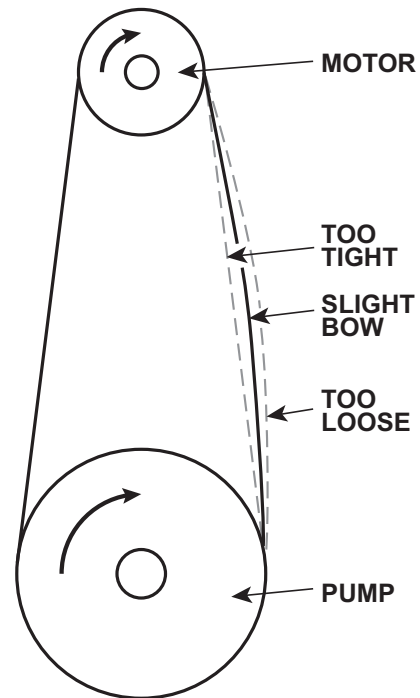

Figure 8-4 – V-Belt Tensioning
2. Start the drive and continue to tension the V-belt(s) until only a slight bow on the slack side of the drive appears while operating under load conditions as shown in **Figure 8-4**.